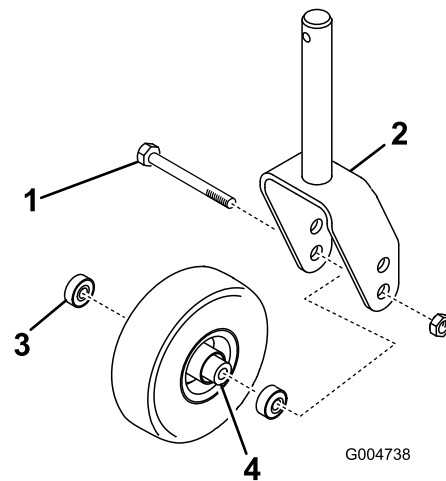
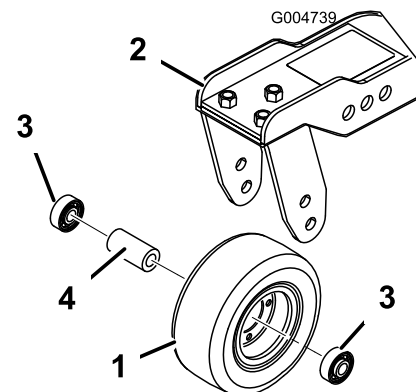

Figure 84
Figure 85
1. Remove the locknut from the bolt holding the castor wheel assembly between the castor fork (Figure 84) or the castor pivot arm (Figure 85). Grasp the castor wheel and slide the bolt out of the fork or pivot arm.